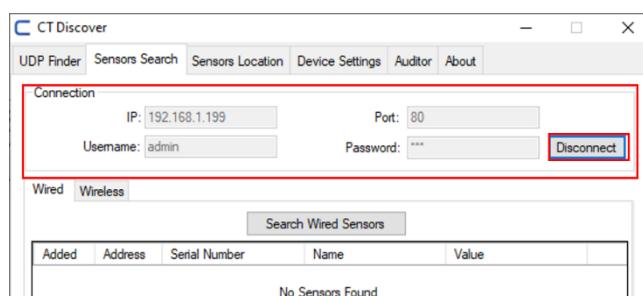

Figure 22 – Connection Data- Connected
- To add and/or remove wireless sensors, go to “Sensors Search” tab and insert Nidus connection data and make the connection if it's not connected. If the Nidus is already connected the button will show “Disconnect” (Figure 22).